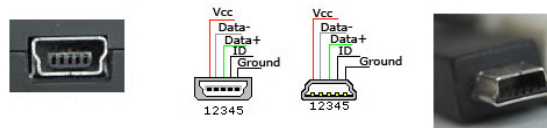

Figure 4: The pinout of the mini-USB connector. Note that wire colors may vary.
Figure 8: In this particular setup, BLACK=ground, WHITE=RX DATA, GREEN=TX DATA — signal names are valid at the radio end of the cable. The green, white and black wires belong to the mini-USB connector which goes into the HX300. Refer to figures 4 and 5 for a review of the mini-USB pinout.
*Table 1: Wiring details. "USB signal name" does not imply actual USB signals, it is only used as a reference to figure 4. NOTE: wire colors may vary.*